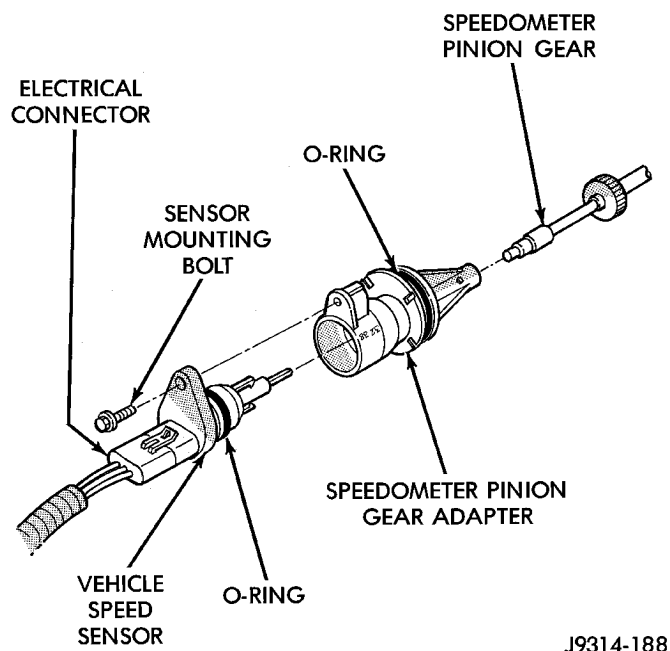

Fig. 93 Sensor Removal/Installation
- (1) Raise and support vehicle.
- (2) Disconnect the electrical connector from the sensor.
- (3) Remove the sensor mounting bolt (Fig. 93).
- (4) Remove the sensor (pull straight out) from the speedometer pinion gear adapter (Fig. 93). Do not remove the gear adapter from the transmission.